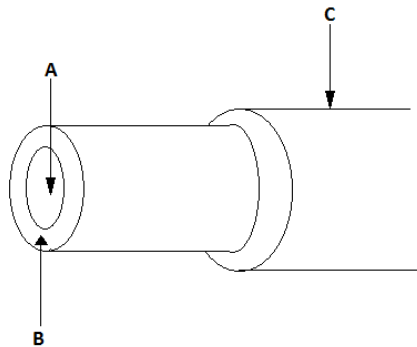

Figure Q3 (c)
- c) Figure Q3 (c) shows the construction of optical fiber cable. Name the parts A, B and C explaining the function of each. **(6 marks)**